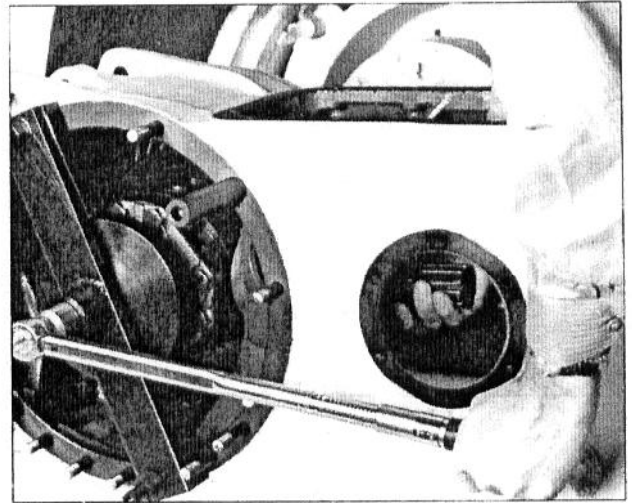

Fig. 83 - Tightening Loading Screw
9. Tighten the loading screw to 20 ft.-lbs. torque, while turning the differential. Refer to Fig. 83.